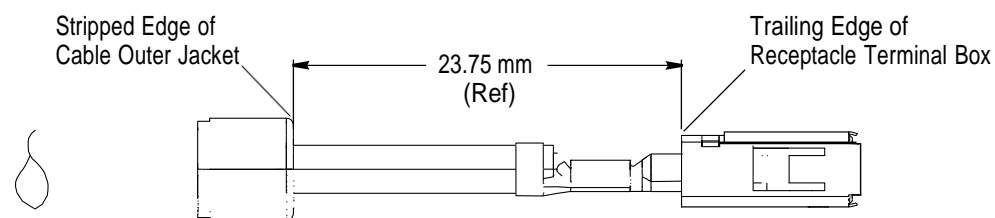

Figure 9
7. Apply a receptacle terminal to each cable using the tooling, method, dimensions, and inspections detailed in Application Specification 114-18148. The trailing edge of the receptacle terminal box should be located from the stripped edge of the outer jacket to the dimension (approximately) given in Figure 9.